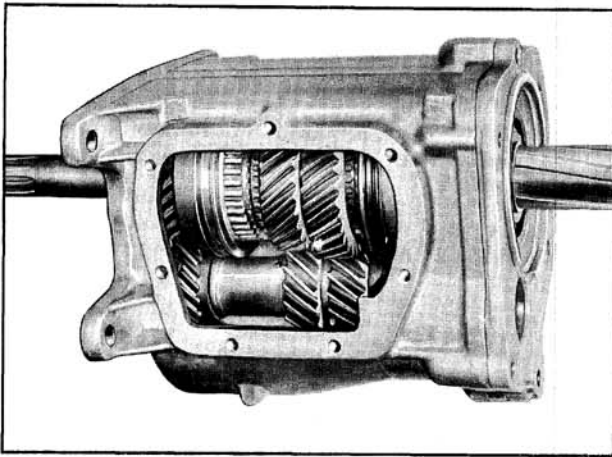

Fig. 7-75 Third and Fourth Speed Synchronizer Clutch Sleeve in Fourth Gear Position
**CAUTION:** Before attempting to install mainshaft assembly to case, slide the 3-4 synchronizing clutch sleeve forward into fourth-speed detent position. (Fig. 7-75)